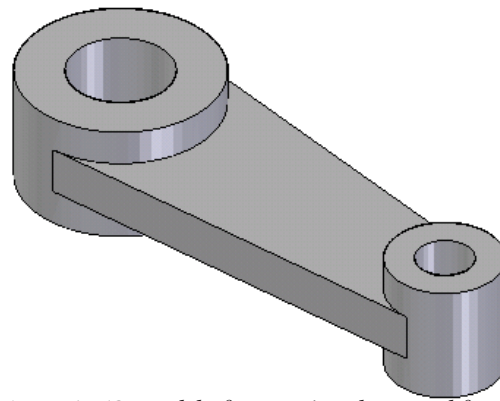

Figure 5-63 Model after creating the second feature
- Create the second feature also on the top plane, refer to Figure 5-63.
- Exit the sketching environment and then extrude the sketch symmetrically through a distance of 25 units. The model, after creating this feature, is shown in Figure 5-63.